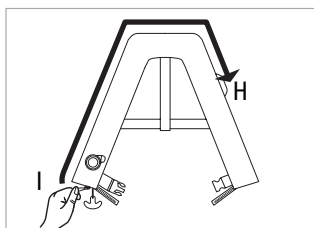
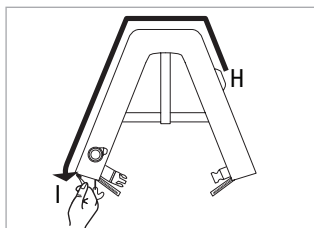

FIGURE 27 RESET 2: UP
FIGURE 28 RESET 2: DOWN
- 8) Reset 2: Pull the slider (I) to the zipper stop (K), and under Velcro™ tab (H) (Fig. 27). Close by pulling slider (I) in the opposite direction to the end of the zipper (Fig. 28). Ensure that the inflatable cell does not get caught by the zipper when closing.